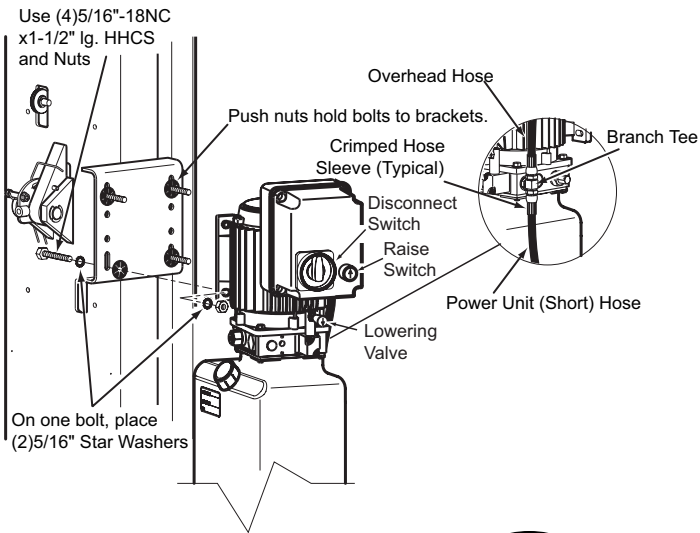

Fig. 7
8. **Power Unit:** First install (1) Star Washer onto one of the (4) 5/16" 18NC x 1-1/2" bolts. **This is very important for grounding.** Put (4) 5/16" 18NC x 1-1/2" lg. bolts thru holes in power unit bracket using push-nuts to hold in place. With the motor being the heaviest part of the unit, two people lift the unit, each with one hand supporting the motor. Position the unit on the bolts with one person supporting the power unit while the other installs lock washers and nuts. Install and tighten Hydraulic Hose Adapter to pump. Then install and tighten Tee, and connect supply hoses to Tee, Fig. 7.
9. **Hoses:** Clean adapters and hose. Inspect all threads for damage and hose ends to be sure they are crimped, Fig. 7.